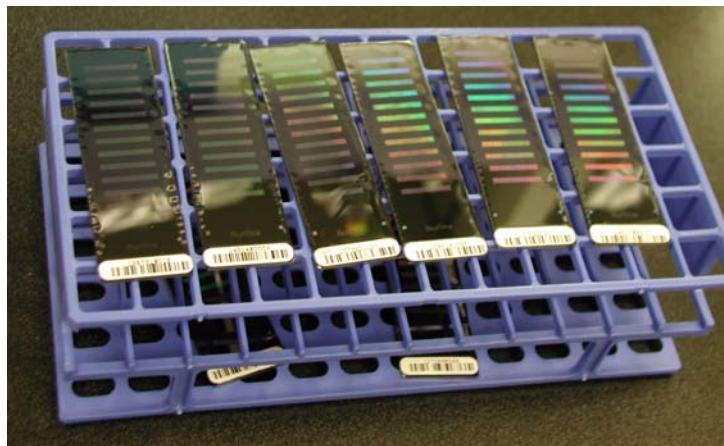

Figure 152 BeadChips on Tube Rack
- b.** Place the BeadChip horizontally on a tube rack with the barcode facing up and towards you (Figure 152).
20. Remove the remaining four BeadChips to the tube rack as shown in Figure 152, so that six BeadChips are on top of the rack and two BeadChips are on the bottom. The barcode ends should be towards you, and the BeadChips should be completely horizontal.